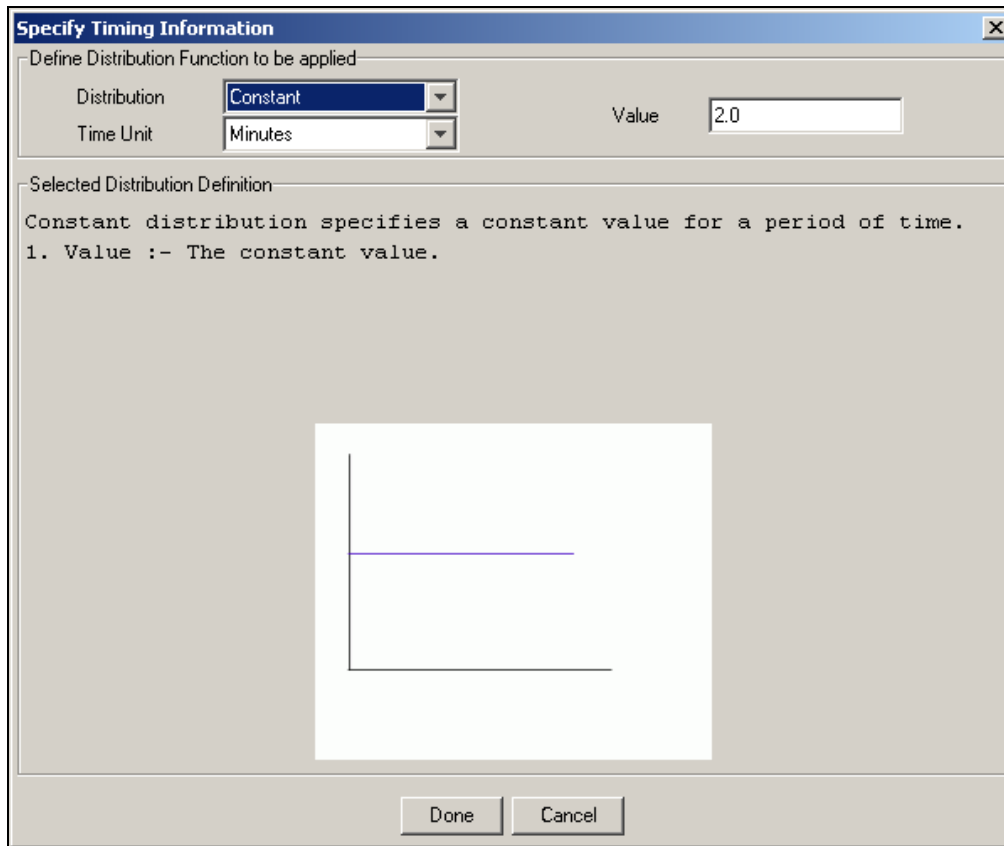

Figure 44: Define Time
6. To change the time interval, click **Change**. The **Specify Timing Information** dialog box appears (see Figure 44).